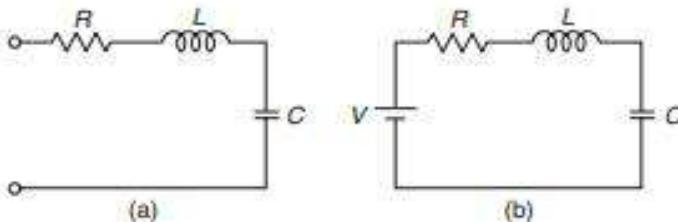

Fig. 1.7 (a) Network which is not a circuit
- Network and Circuit** The interconnection of two or more circuit elements (viz., voltage sources, resistors, inductors and capacitors) is called an *electric network*. If the network contains at least one closed path, it is called an electric circuit. Every circuit is a network, but all networks are not circuits. Figure 1.7(a) shows a network which is not a circuit and Fig. 1.7(b) shows a network which is a circuit.